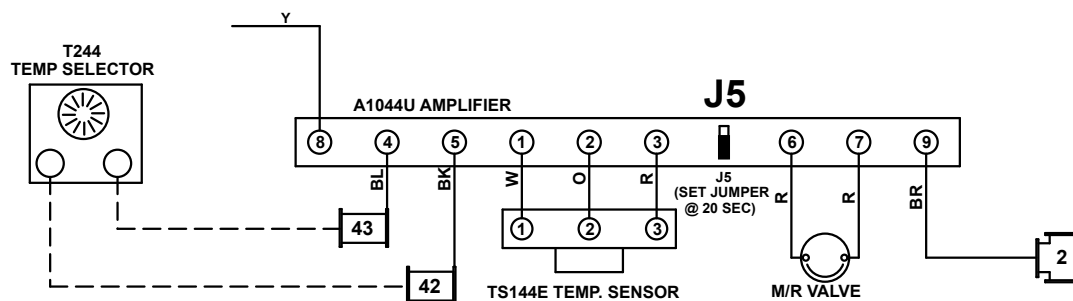

Figure 67. Replacement Amplifier Wiring Diagram (PN 268274)
- (2) Position replacement amplifier's mounting rail included with amplifier in same location where existing amplifier was mounted and mark and drill two 7/64-inch mounting holes.
- (3) Secure mounting rail using screws from kit. Carefully install amplifier on mounting rail.
- (4) Cut terminals off all disconnected amplifier wires and replace with wire terminals from kit.
- (5) Connect wiring to replacement amplifier in accordance with Figure 67. Ensure that J5 jumper in center of lower portion of amplifier is set to 20 second position as shown.
- (6) Set temperature dials to temperature settings of replaced amplifier.